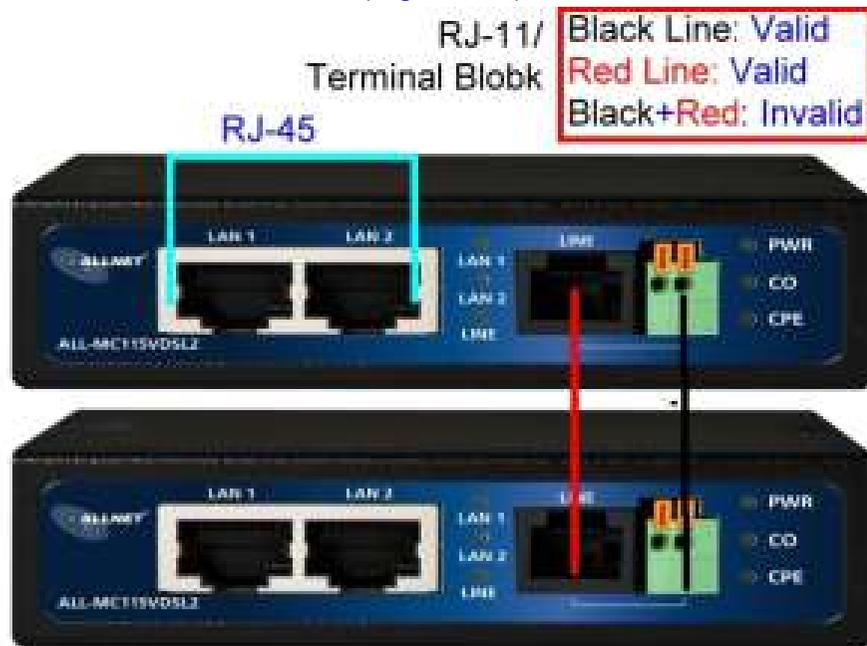
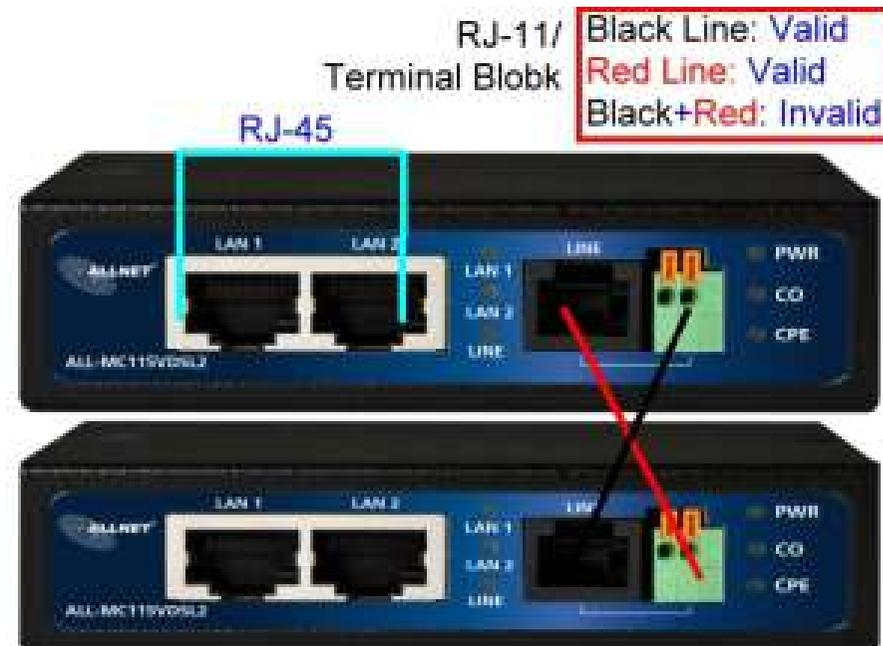

Figure 2.4 ALL-MC115VDSL2 line ports straight connection
Figure 2.5 ALL-MC115VDSL2 line ports crossover connection
- ◆ The line port has 2 connectors: RJ-45 and terminal block. It is used to connect from ALL-MC115VDSL2 (CO) using single pair phone cable to ALL-MC115VDSL2 (CPE) bridge side (point to point solution). Take note that ALL-MC115VDSL2 line port cannot be used at the same time. Either RJ-11 port is connected or terminal block is connected using straight connection (Figure 2.4) or cross-over connection(Figure 2.5)